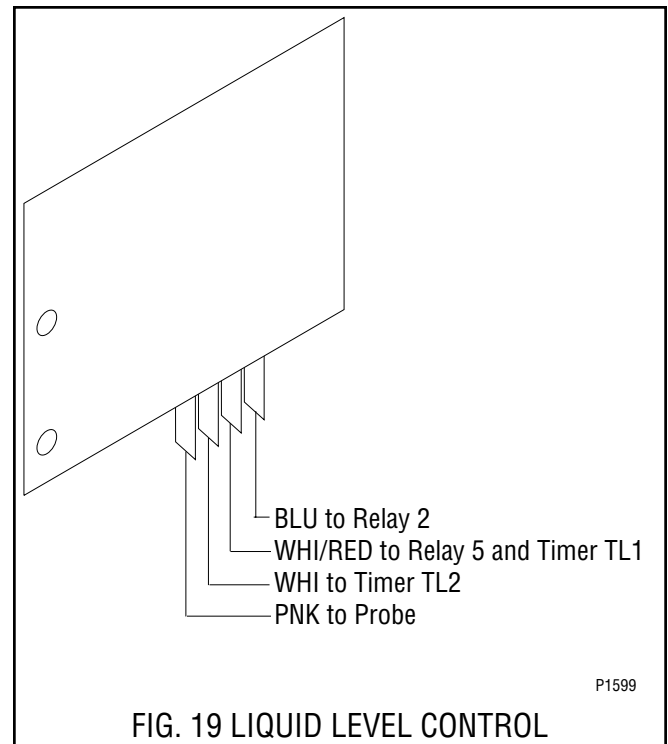

FIG. 19 LIQUID LEVEL CONTROL BOARD TERMINALS
4. Refer to FIG. 19 when reconnecting the wires.